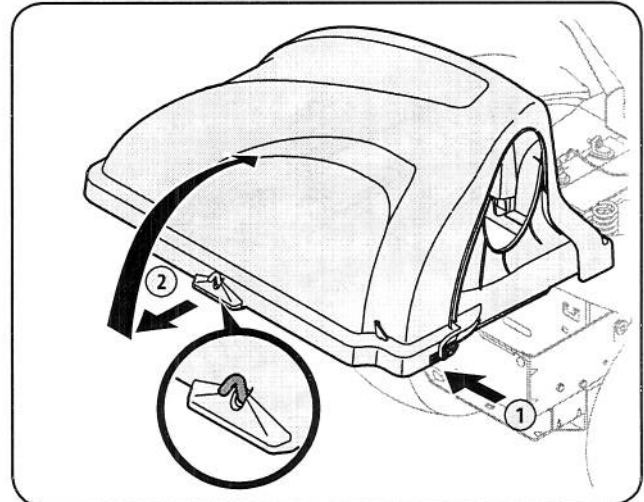

**Figure 4-16**
6. Slide the hinge pin into the hole located on the mounting tab, as in Fig. 4-16. Use the cut-out window (See inset in Fig. 4-16) to line up the hinge pin on the other side and push pin all the way in until it reaches the end-stop. At this point the pin clips into place and is secured by a tab in the bagger cover. See Fig. 4-17.